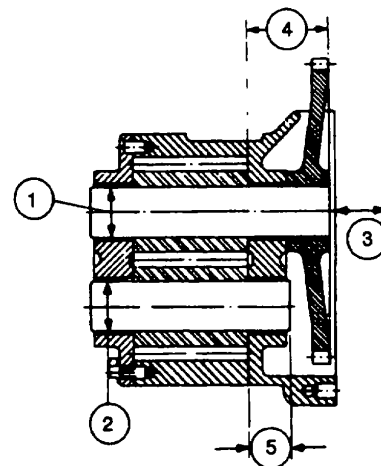

Figure 8-7. Lubricating Oil Pump Fits and Clearances
- (1) Using an arbor press, press the shafts (42 or 45) out of the gears (41 or 44).
- (2) Assemble the drive shaft (45) to the gear (44) using an arbor press. Press the shaft into the gear to dimension 4, Figure 8-7.
- (3) Assemble the idler shaft (42) to the gear (41) using an arbor press. Press the shaft into the gear to dimension 5, Figure 8-7.
- a. Install the lubricating pump shaft and gear (45 and 44) into the lubricating pump body (47).
- b. Support the lubricating pump shaft (45) and press the lubricating pump drive gear (43) on the shaft until it is flush with the end of the shaft.
- c. Install the lubricating pump shaft and gear (42 and 41) into the lubricating pump body (47).
- d. Position a new lubricating pump gasket (40) on the pump body, and install the cover (39), hexagon head capscrews (37), and lockplates (38) and tighten to 30 to 35 pound-feet (41 to 47 newton-meters) torque. Bend the tabs on the lockplates to secure the capscrews.
- e. Check the shaft end clearance (3, Figure 8-7). The end clearance shall be 0.004 to 0.007 inch (0.10 to 0.18 mm). If the end clearance is incorrect, replace the cover (39, Figure 8-4).
- f. Position the relief plunger (36), relief spring (35), and plain washer (34) into the pressure relief housing (30). Secure with the retaining pin (33) and roll pin dowel (32).